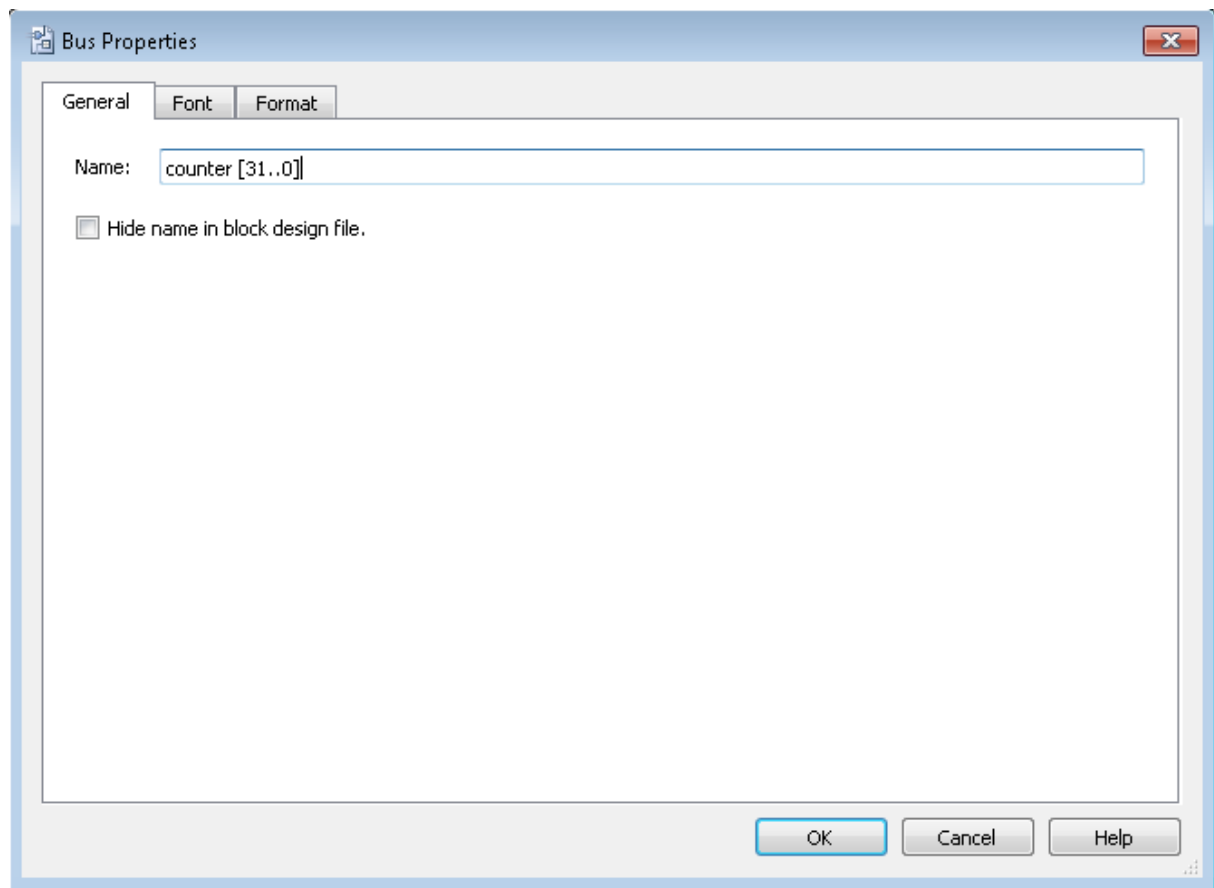

Figure 3-19 Change the output BUS name
- j. Type counter [31..0] as the bus name (see **Figure 3-19**). The notation [X ..Y] is the Quartus II method for specifying the bus width in BDF schematics, where X is the most significant bit (MSB) and Y is the least significant bit (LSB).